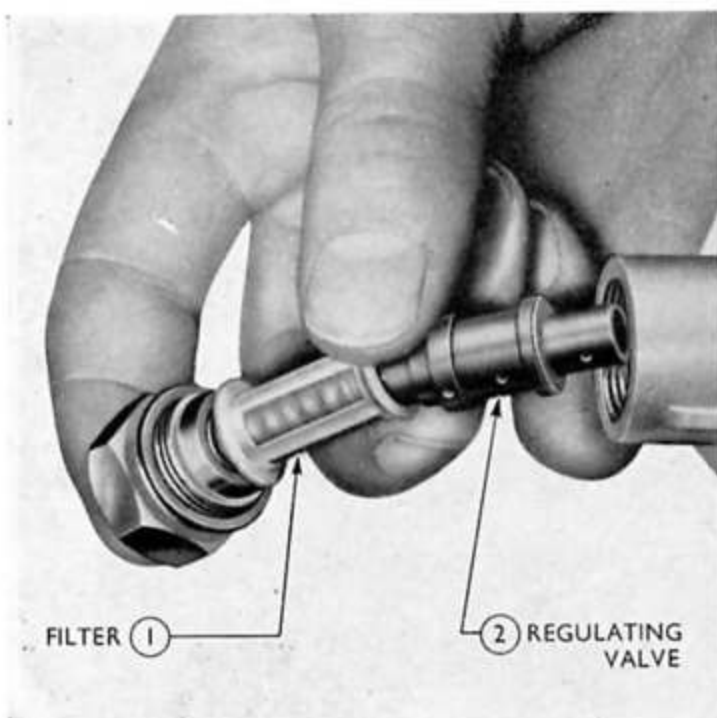

Fig. 43
9. Dismantle the regulating valve. Remove the inlet union and placing your hand over the inlet union recess, invert the end cover assembly to carefully remove the filter and regulating valve assembly (see Fig. 43). Care should be taken not to lose the regulating spring and plunger located in the sleeve.
26. Assemble the regulating valve and filter (see Fig. 43) to the end plate as follows:—